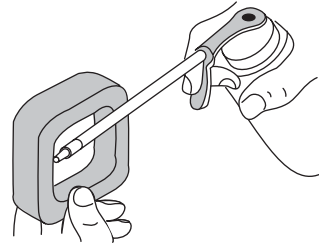

Figure 32
4. Apply enough clean SAE 30 motor oil to lightly coat the filter. See Figure 32.